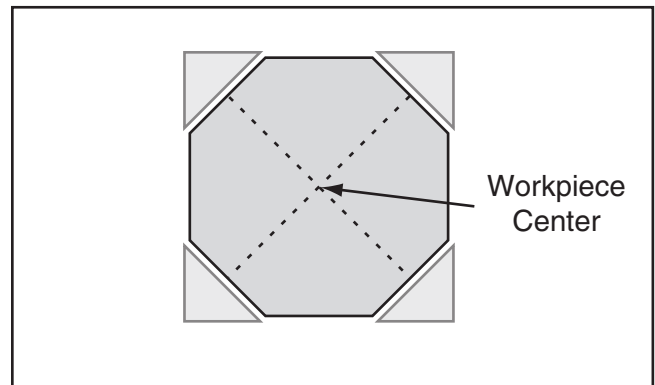

Figure 35. Corners of workpiece removed.
5. If your workpiece is over 2" x 2", cut corners off workpiece lengthwise to make turning safer and easier (see **Figure 35**).